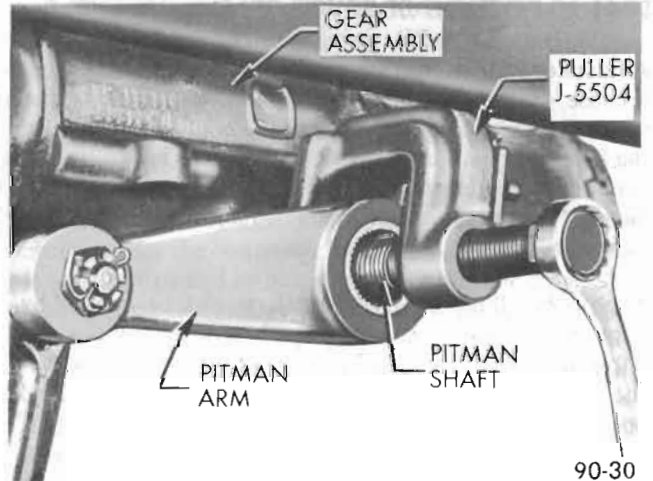

Figure 90-33 Removing Pitman Arm From Pitman Shaft.
1. Remove pitman arm nut and disconnect pitman arm from pitman shaft using puller J-5504. See Figure 90-33.
4. Remove pitman arm nut, then remove the pitman arm using puller J-5504. See Figure 90-33.